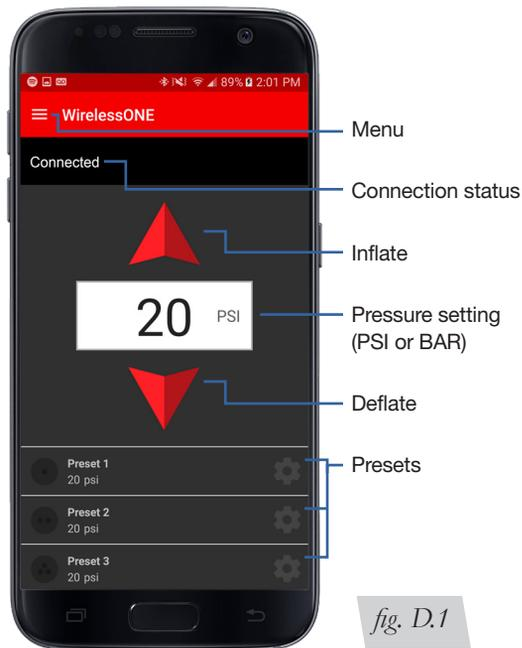

fig. D.1
1. When the app is open to the dashboard, it shows the desired pressure (Fig. D.1).